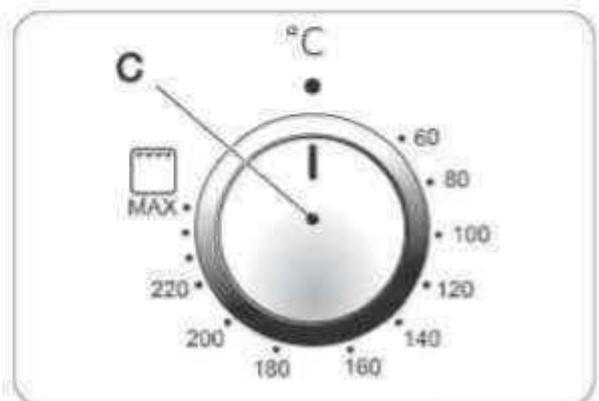

Fig. 4.3
To switch on and use the oven in manual mode (disabling the cooking programmer), simply set the cooking mode selection knob (B, Fig. 4.2) to the required position and then set the temperature on the thermostat knob (C, Fig. 4.3).
- 3 - On the cooking mode selection knob (B, Fig. 4.2) set the required cooking function, and with knob (C, Fig. 4.3) set the thermostat.